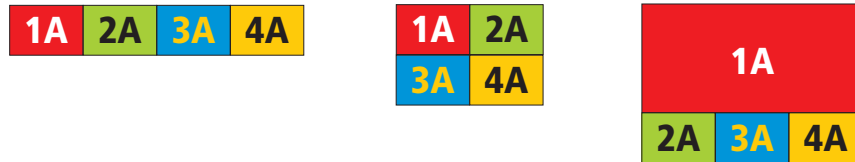

Figure 4-10. Example screen layouts
2. Arrange the coloured rectangular screen representations to mimic the physical layout of the actual displays. See Figure 4-10.